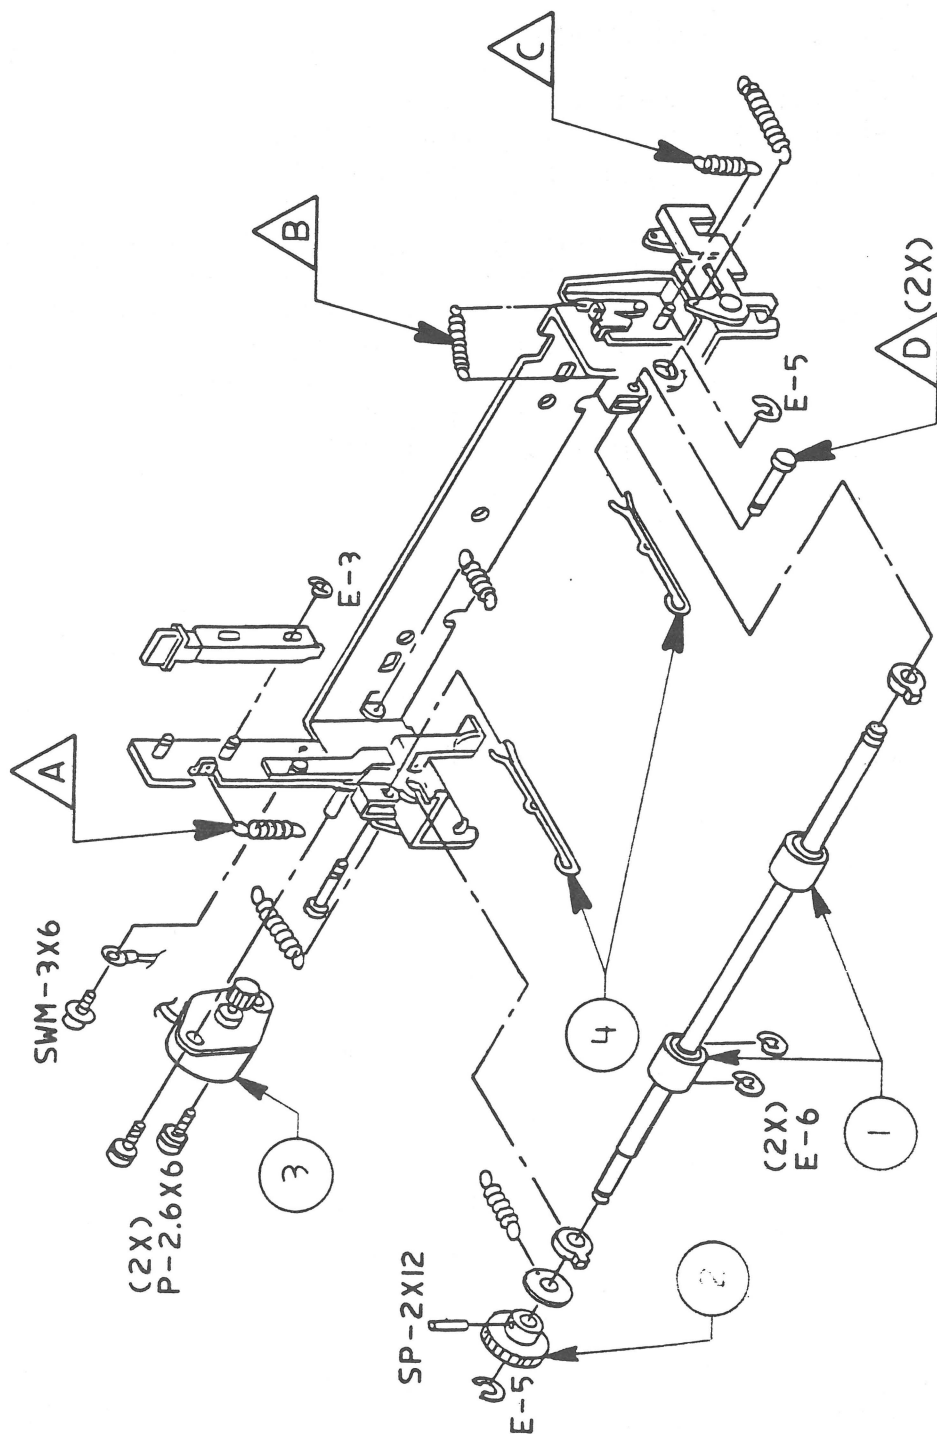

FIGURE 3
IPL.7	Frame Assembly (Figure 3)
□ FRAME ASSEMBLY (Figure 3)